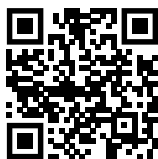

Fig. 128
- Aprire la Liebherr SmartMonitoring Dashboard. (vedere Fig. 128)